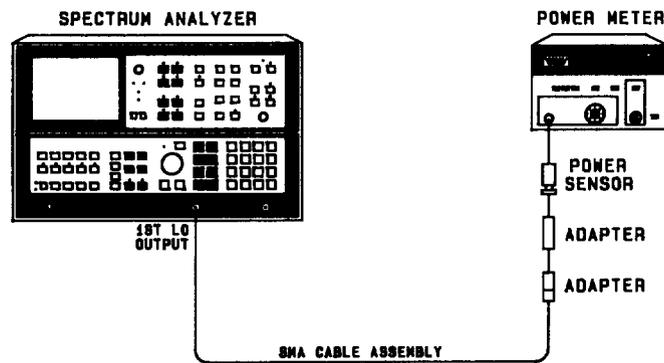

FIGURE 33. 1ST LO OUTPUT AMPLITUDE TEST SETUP
3. Calibrate power meter and sensor. Connect equipment as shown in Figure 33.